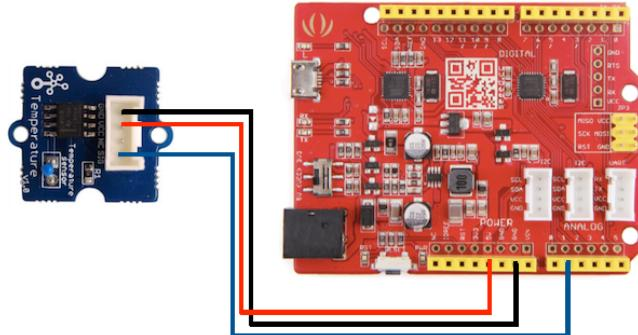

Figure 5: Arduino and temperature sensor set up
1. Attach the temperature sensor to the Arduino. Connect Vcc to 5V, Ground to Ground of the ELVIS and signal to Analog 1. See Figure 5.